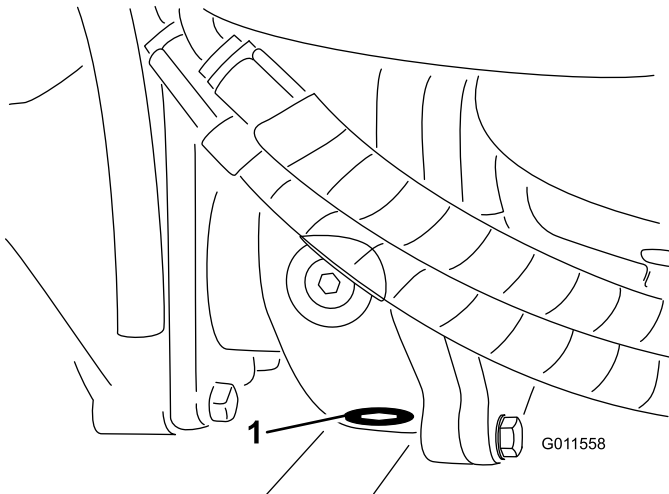

Figure 109
5. Clean the area around the drain plug at the bottom of the gearbox (Figure 109).